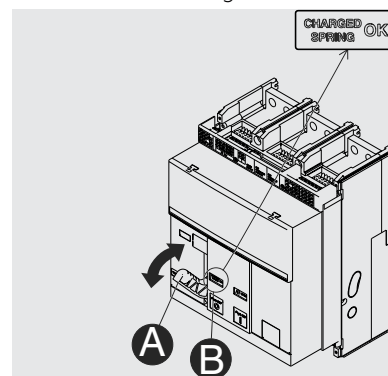

Figure 43
2. Charging the springs - Pull the lever [A] downwards several times until the springs charged signalling device [B] is "yellow - CHARGED SPRING" as indicated in Figure 43.